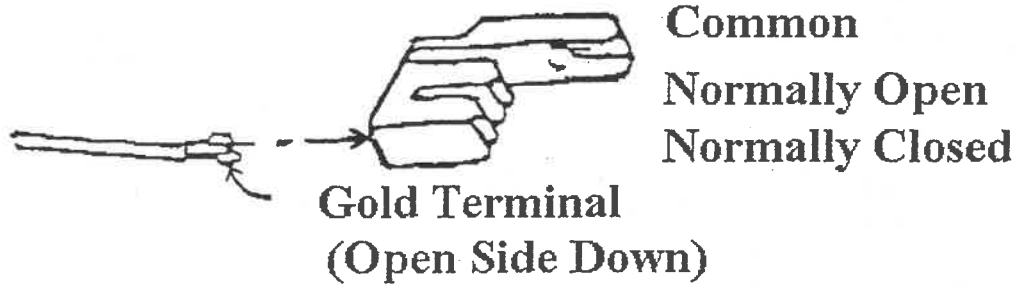

Figure 1
19. Remove the wires from the normally open contact of all select switches and tape them with electrical tape. (NOTE: The normally open contact is shown in figure 1, page 4.)